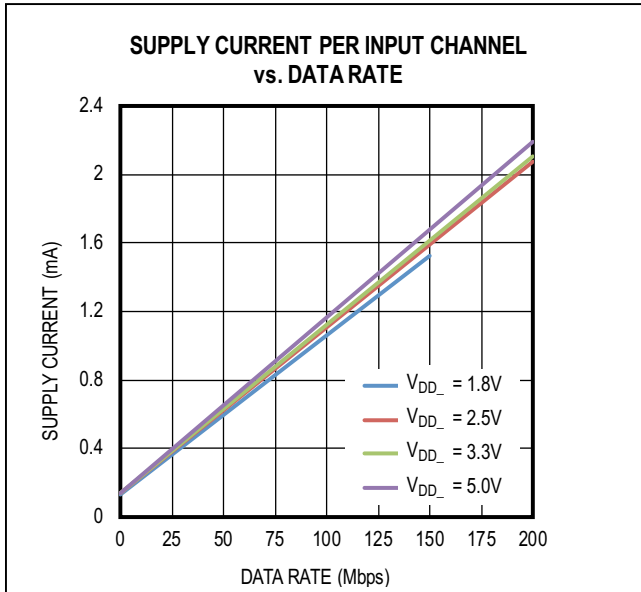
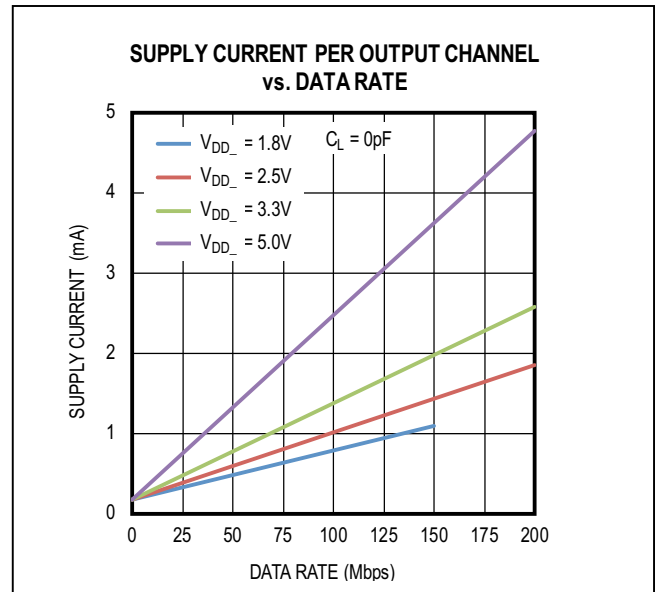

Figure 7. Supply Current Per Input Channel
Figure 8. Supply Current Per Output Channel
The required current for a given supply (V_{DDA} or V_{DDB}) can be estimated by summing the current required for each channel. The supply current for a channel depends on whether the channel is an input or an output, the channel's data rate, and the capacitive or resistive load if it is an output. The typical current for an input or output at any data rate can be estimated from the graphs in Figure 7 and Figure 8. Please note the data in Figure 7 and Figure 8 are extrapolated from the supply current measurements in a typical operating condition.
The total current for a single channel is the sum of the "no load" current (shown in Figure 7 and Figure 8), which is a function of Voltage and Data Rate, and the "load current", which depends on the type of load. Current into a capacitive load is a function of the load capacitance, the switching frequency, and the supply voltage.
- ISDO operating at 3.3V and 10Mbps, consuming 0.24mA, estimated from Figure 7.
- \overline{FAULT} operating at 3.3V and DC, consuming 0.14mA, estimated from Figure 7.
- OAUX operating at 3.3V and 1Mbps, consuming 0.19mA, estimated from Figure 8. I_{CL} on OAUX for 10pF capacitor at 3.3V is 0.017mA.
- OSDI operating at 3.3V and 10Mbps, consuming 0.30mA, estimated from Figure 8. I_{CL} on OSDI for 15pF capacitor at 3.3V is 0.25mA.
- OSCLK operating at 3.3V and 20Mbps, consuming 0.42mA, estimated from Figure 8. I_{CL} on OSCLK for 15pF capacitor at 3.3V is 0.50mA.
- \overline{OCS} operating at 3.3V and 2.5Mbps, consuming 0.21mA, estimated from Figure 8. I_{CL} on OCS for 15pF capacitor at 3.3V is 0.062mA.
- IAUX operating at 2.5V and 1Mbps, consuming 0.15mA, estimated from Figure 7.
- ISDI operating at 2.5V and 10Mbps, consuming 0.23mA, estimated from Figure 7.
- ISCLK operating at 2.5V and 20Mbps, consuming 0.33mA, estimated from Figure 7.
- \overline{ICS} operating at 2.5V and 2.5Mbps, consuming 0.16mA, estimated from Figure 7.
- OSDO operating at 2.5V and 10Mbps, consuming 0.27mA, estimated from Figure 8. I_{CL} on OSDO for 15pF capacitor at 2.5V is 0.19mA.
- \overline{OFAULT} operating at 2.5V and 1Mbps, consuming 0.18mA, estimated from Figure 8. I_{RL} on \overline{OFAULT} for 10k Ω resistor at 2.5V is 0.25mA.